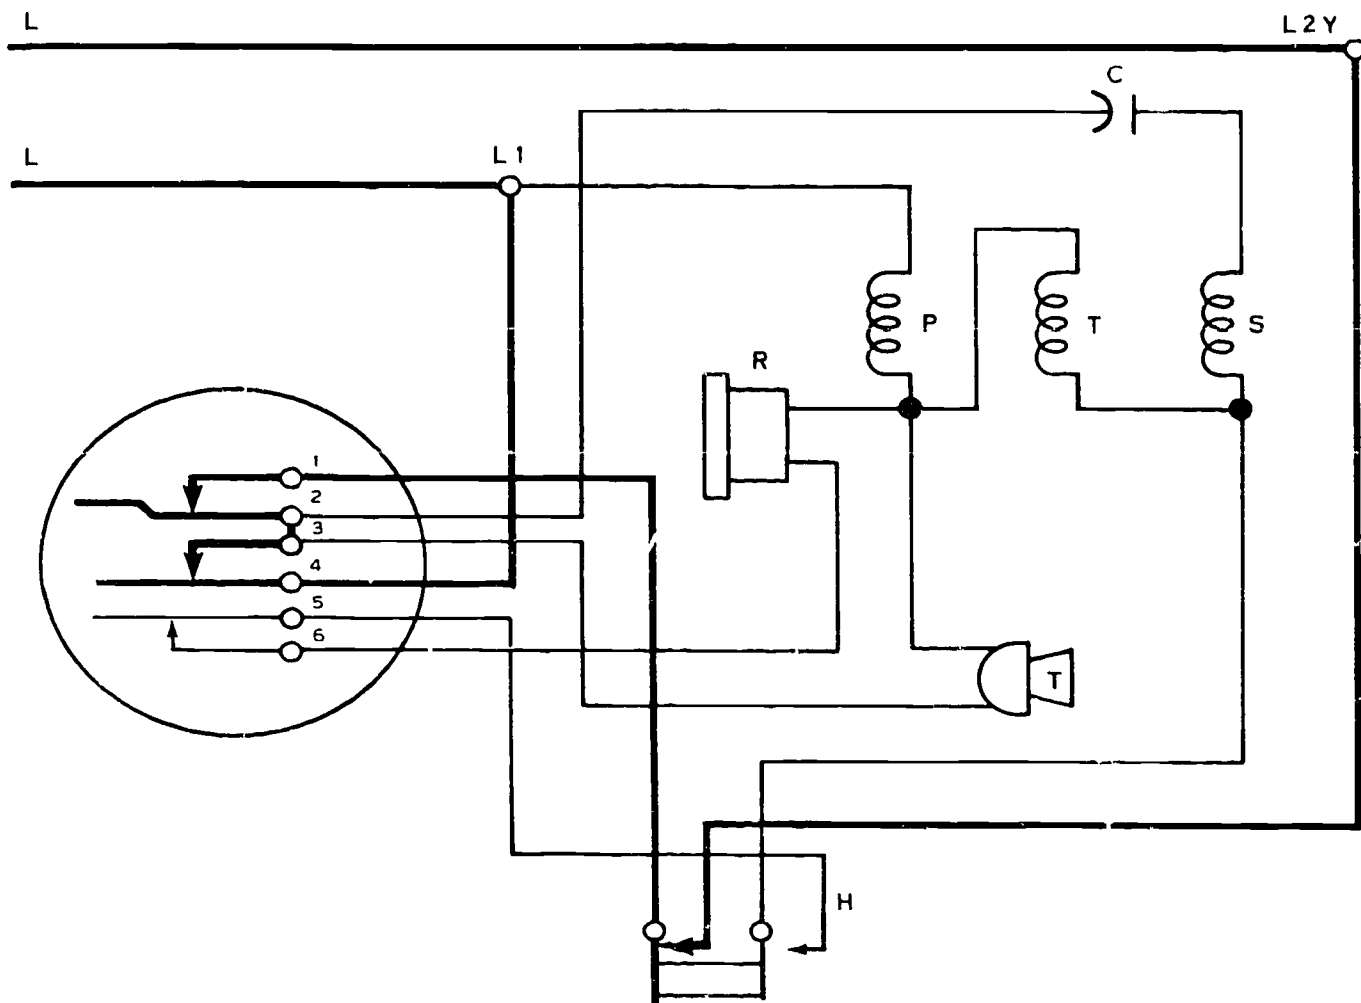

Figure 2-9. Dialing circuit schematic diagram.
Although many telephone dials are constructed differently, the pulsing springs on all dials work approximately the same. The main difference between the various types of dials is in the operation of the shunting spring contacts. To observe this difference in shunting spring operation, refer to the schematic diagram in figure 2-9. The heavy lines in this illustration indicate the path of the dial pulses. Note that when the dial contacts between springs 3 and 4 are operated, they short-circuit not only the transmitter but also the primary winding of the induction coil. Short-circuiting the primary winding reduces interference between the telephone and any nearby radio equipment during the dialing period; it also reduces the dialing circuit resistance. Also note that the dial contacts between springs 5
and 6 (fig. 2-9) open the receiver circuit when the dial is moved off normal. This is directly opposite from the circuitry shown in figure 2-5, where the receiver circuit is shorted by the shunt springs. In figure 2-9, the pulsing contacts (1 and 2) are always closed except while the dial finger plate is returning to normal. When a digit is dialed on this telephone, the pulse cam opens and closes these contacts while the finger plate is returning to normal. The number of times the contacts open and close corresponds to the number of the digit dialed. Thus these contacts pulse the line circuit, causing current surges that control the switching equipment at the central office.
7. Identify the dialing circuit components in text figure 2-9 that are in parallel with spring terminals 3 and 4.